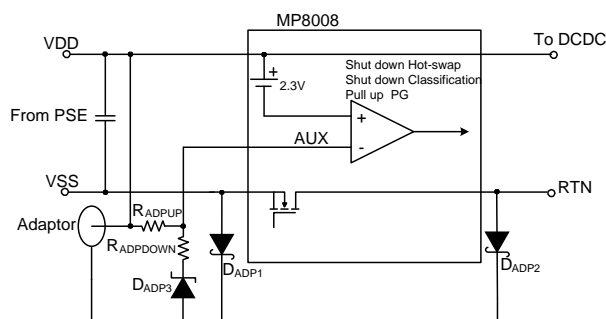

Figure 4: Adapter Power Detection
The MP8008 uses wall power adapter detection for applications where an auxiliary power source, such as a wall adapter, is used to power the device (see Figure 4). Once the input voltage (VDD - VSS) exceeds about 11.5V, the MP8008 enables wall adapter detection. The wall power adapter detection resistor divider is connected from VDD to the negative terminal of the adapter, and D_{ADP3} is added for a more accurate hysteresis. There is a -2.3V reference voltage from AUX to VDD for adapter detection. The adapter is detected when the AUX voltage triggers, shown in Equation (1):